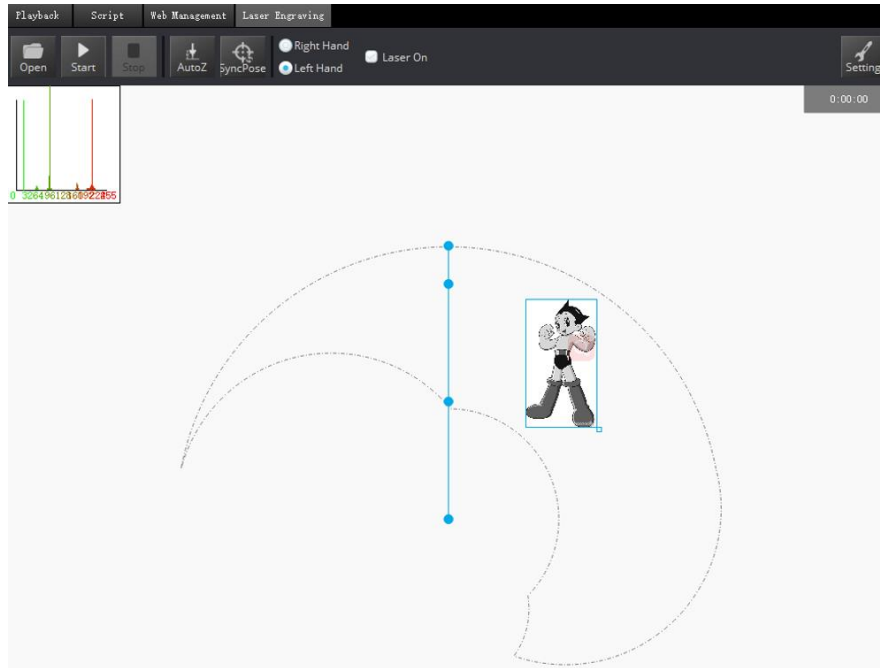

Figure 6.17 Import picture
Step 2 Click **Open** on the Laser Engraving page, and select the picture to be engraved, as shown in Figure 6.17.
- The imported picture should be placed in the annular region, as shown in Figure 6.17. If not, it is unable to engrave normally and the border of the imported picture will be highlighted in red.
- The annular region depends on arm orientation. Please adjust the imported picture according to the real annular region. Figure 6.17 shows the annular region when arm orientation is left.